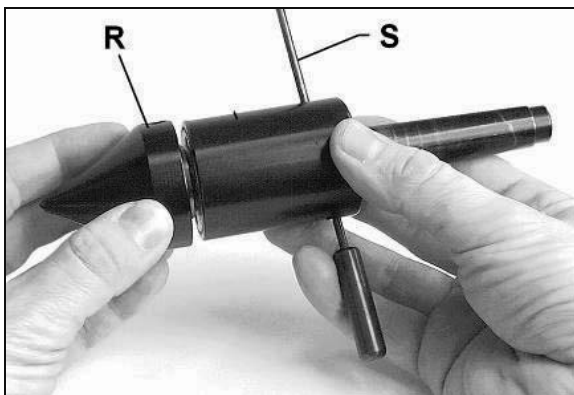

Fig 35
To screw off the cone (R, Fig 35) the live centre must be locked against rotation with the supplied pin (S).